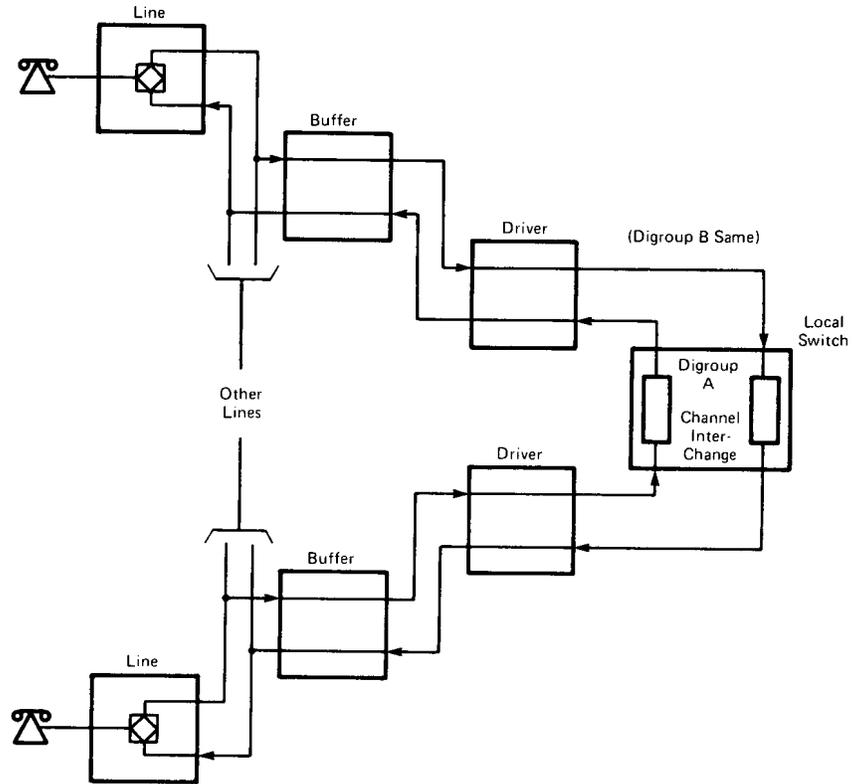

Fig. 13 -- RCT Local Link Path
C. Signal Path — Local-Link (Fig. 13)